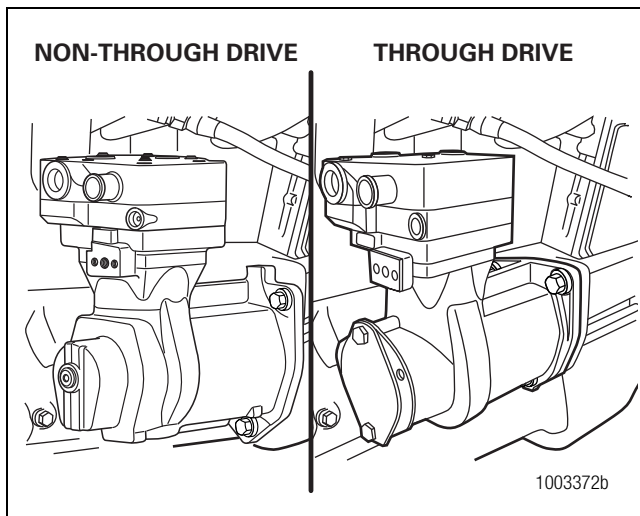

Figure 1.1
- System Saver 318 non-through drive version air compressor used on Mack engines. Figure 1.1.
- System Saver 318 through-drive version air compressor used on Mack engines. This unit is required to run hydraulic power steering pumps. Figure 1.1.